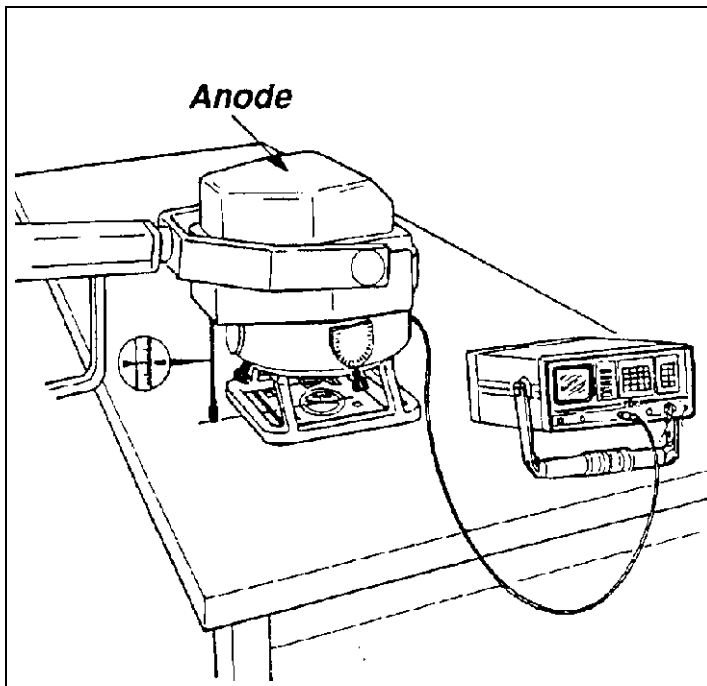

Fig. 18: kV measurement
- Place the measuring detector on a suitable surface and adjust the single tank to the detector using the light localizer (Fig. 18 / p. 44).